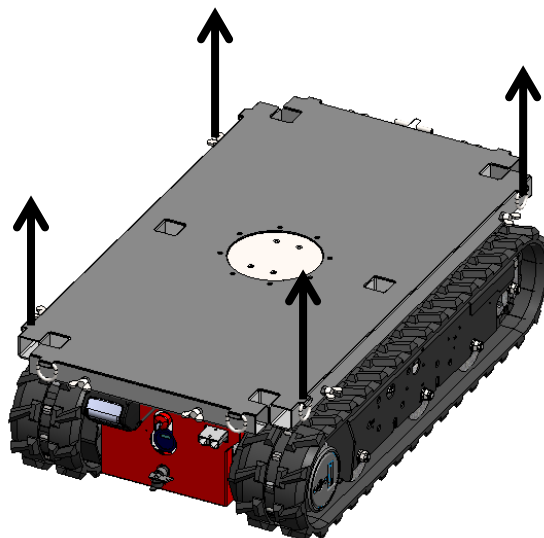

Figure: 23
- Lift the Tracked Carrier using lifting straps or chain slings with a capacity of at least 750 kg. Fit these to the four hoisting eyes on the side of the platform (see figure 23).